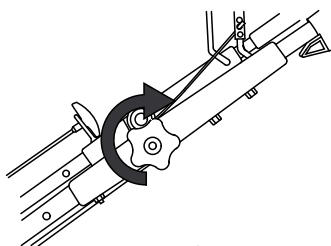

Figure 4
2. Tighten the upper handle knob as tight as you can (Figure 4).